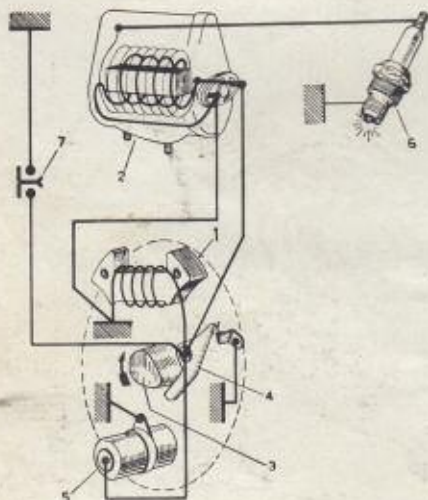

Fig. 5 - Ignition diagram
**Ignition** by an external H. T. coil with primary winding fed by another coil inside the flywheel magneto (see Fig. 5). Sparkplug: Marelli CW 240 A - T, AC 42 F, Champion L. 5, Bosch W 240 T1. Ignition timing with spark advance of  $28 \pm 1^\circ$ .